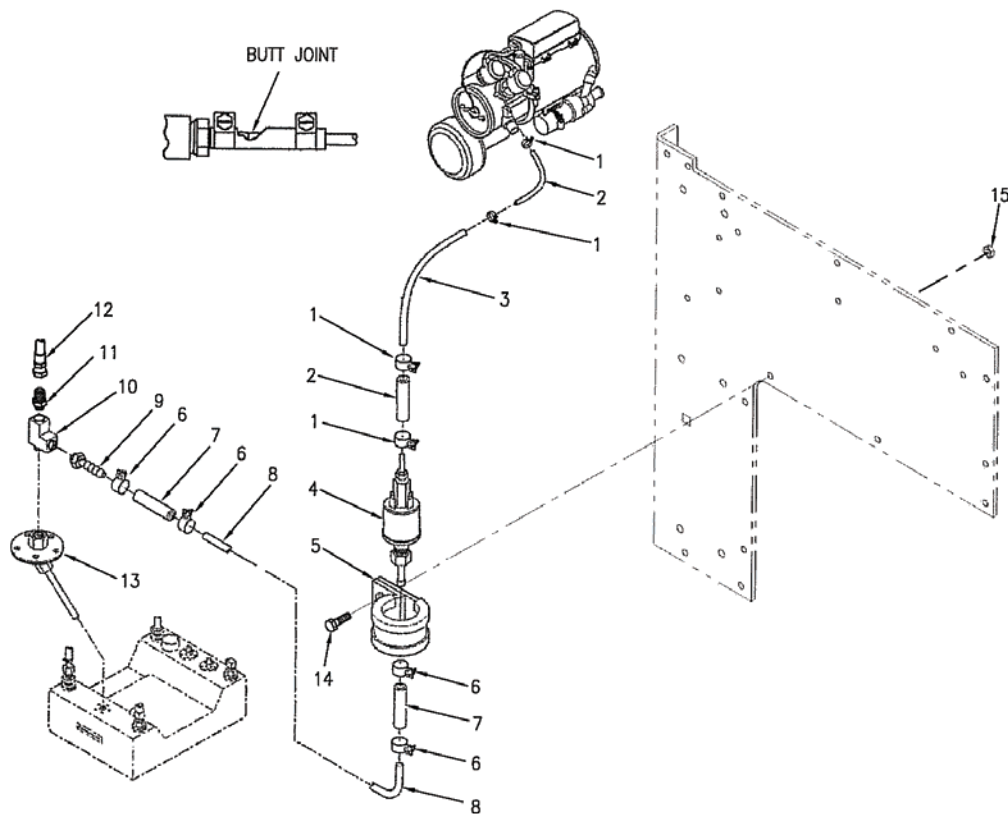

Figure 6-27. Fuel Pump and Lines Removal.
- h. Remove Bolt (14, Figure 6-27), nut (15), clamp (5), fuel pump (4), butt splices (7), clamps (6 and 1), fuel lines (2, 3 and 8), barbed adapter (9) and fuel line tee (10) from fuel pickup tube assembly (13). Be sure to use a suitable container to catch any fuel from lines. Install fuel line adapter (11) back into fuel pickup tube assembly (13).